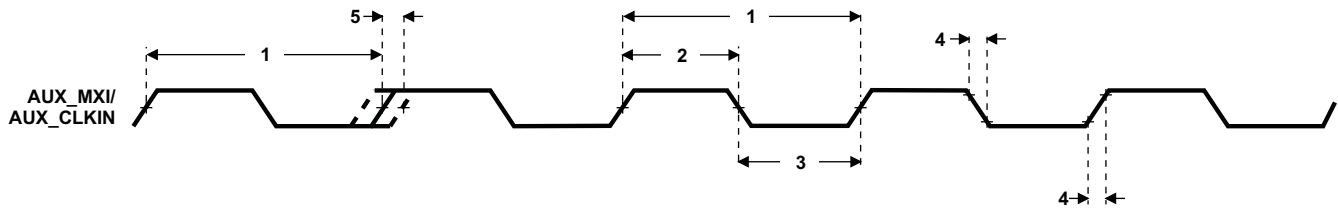

Figure 7-16. AUX_MXI/AUX_CLKIN Timing
Table 7-13. Timing Requirements for AUX_MXI/AUX_CLKIN ^{(1) (2) (3)} (see Figure 7-16)